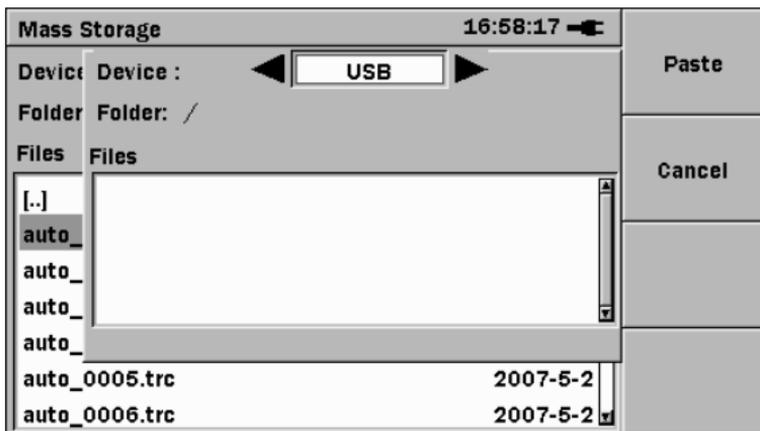

Figure 3-13: Mass Storage screen with Destination window
5. Highlight **Copy** and then press the **Set key**. The Destination window is superimposed over the Mass Storage File Operations screen (see Figure 3-13 on page 3-23).